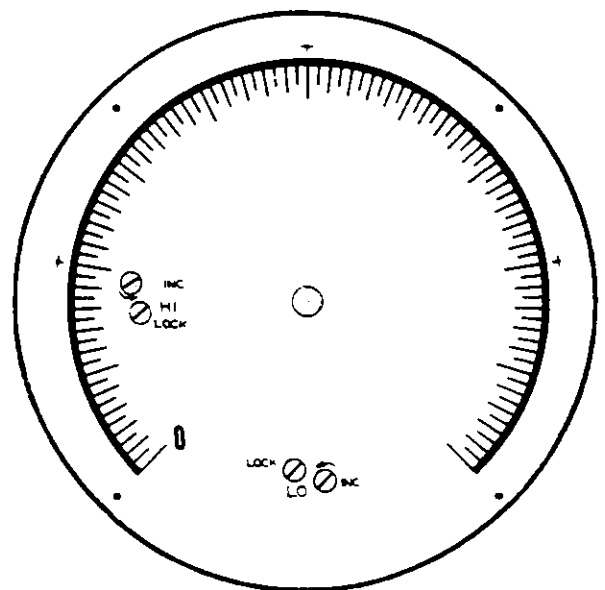

FIG. 17
1. Unlock the switch set point location by turning the lock screws (slotted shaft) counter-clockwise; only one-half turn is needed. (See Fig. 17).